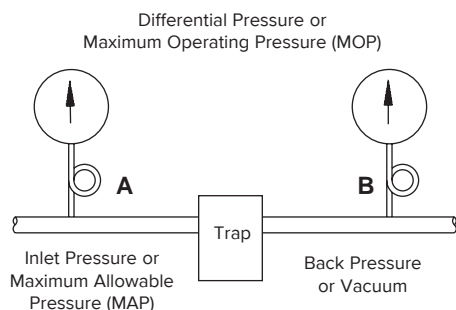

Figure LD-12. “A” minus “B” is Pressure Differential: If “B” is back pressure, subtract it from “A.” If “B” is vacuum, add it to “A.”
2. Pressure Differential. Maximum differential is the difference between main pressure, or the downstream pressure of a PRV, and return line pressure. See Fig. LD-12. The drain trap must be able to open against this pressure differential.
3. Maximum Allowable Pressure. The trap must be able to withstand the maximum allowable pressure of the system, or design pressure. It may not have to operate at this pressure, but it must be able to contain it. As an example, the maximum inlet pressure is 150 psig and the return line pressure is 15 psig. This results in a differential pressure of 135 psig; however, the trap must be able to withstand 150 psig maximum allowable pressure. See Fig. LD-12.